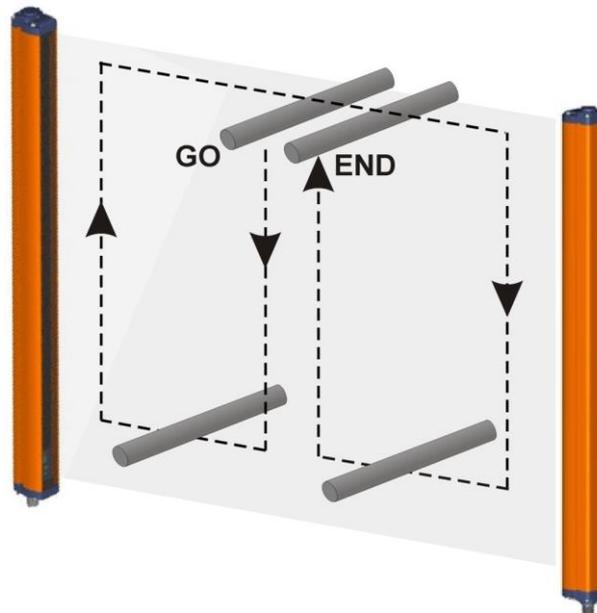

Fig 18 - Path of the test piece
- ESPE remains blocked (➤ lit RED) intercepting the beams along the protected area using the specific test piece, following the scheme in **Fig 18 - page 26**.